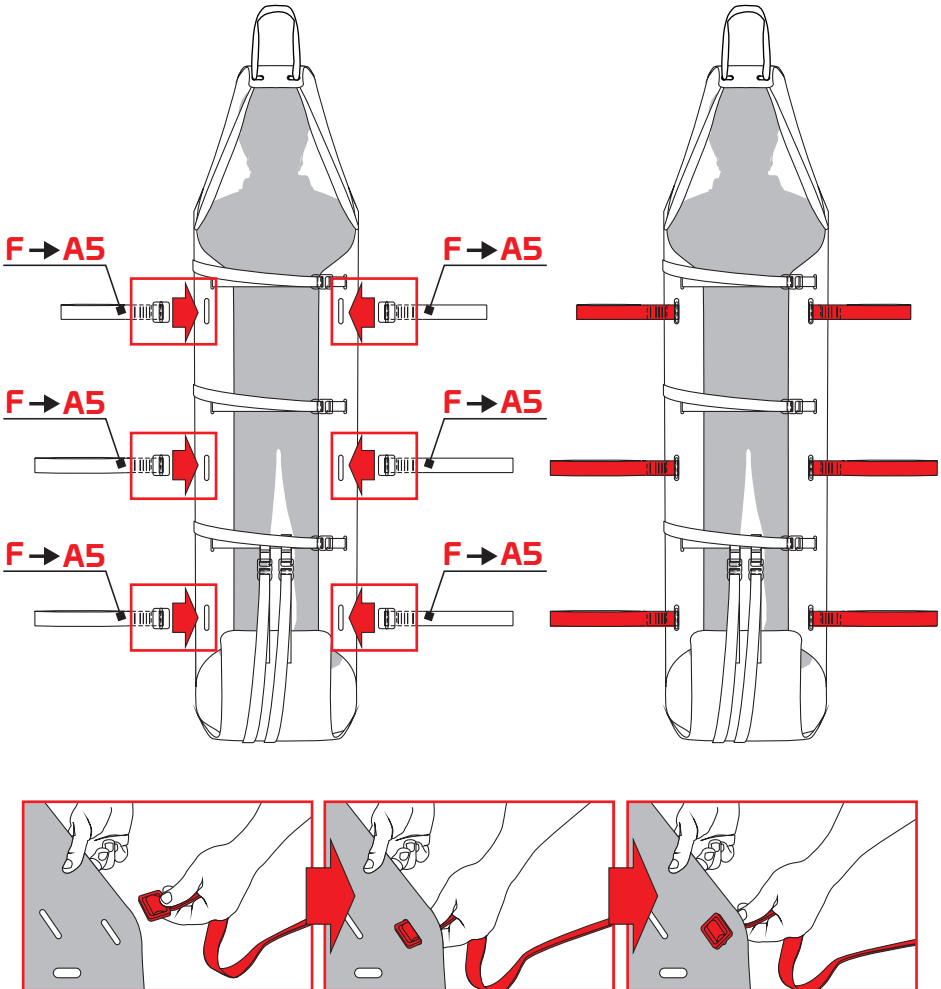

Fig.12
a) manual transport: insert only the side handles (F) in the eyelets A5 on the support surface (fig. 12) - Please note: we suggest inserting the shortest couple of handles in the place near the torso of the patient, in order to keep the head higher than the feet